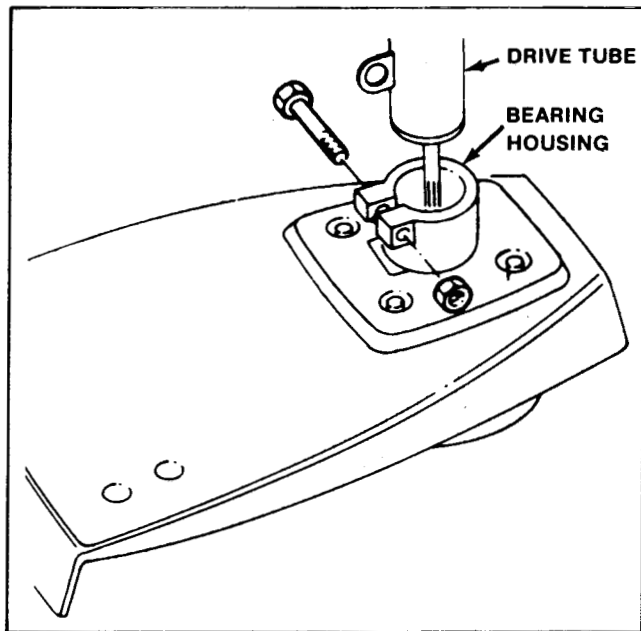

Figure 106
1. Remove the machine screw and nylon locknut that secures the bearing housing to the drive shaft. See Fig. 106.